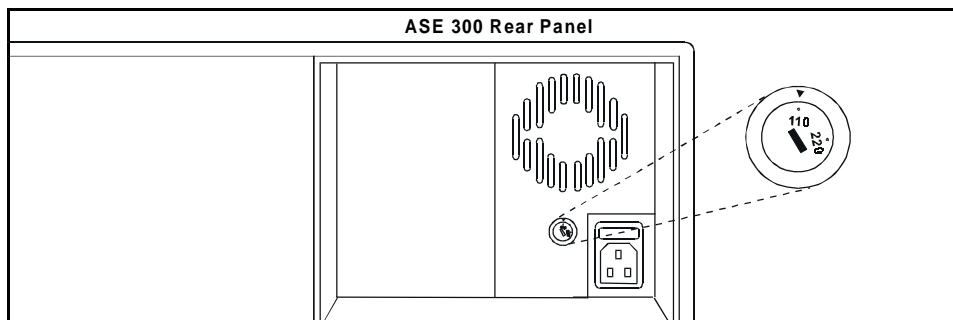

Figure B-3. Voltage Range Switch
2. Check the voltage range switch beside the power receptacle (see Figure B-3); if the setting does not match the voltage from the power source, reset the switch.